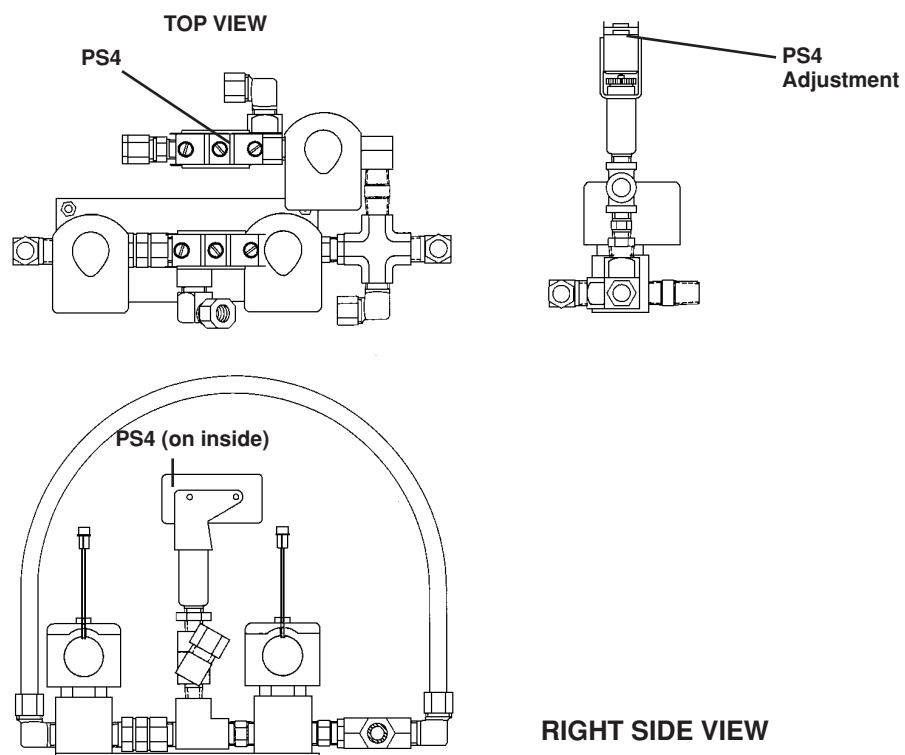

Figure 3-13 Pressure Switch PS4 and Adjustment Location
2. If the plasma gas RUN pressure does not quickly reach the value stated in the Cut Charts **after arc transfer**, you may need to adjust PS4. Remove the right side panel of the power supply. On the floor of the power supply, locate pressure switch PS4 by referring to Figure 3-13 and adjust by turning the PS4 Adjustment screw in a clockwise direction.